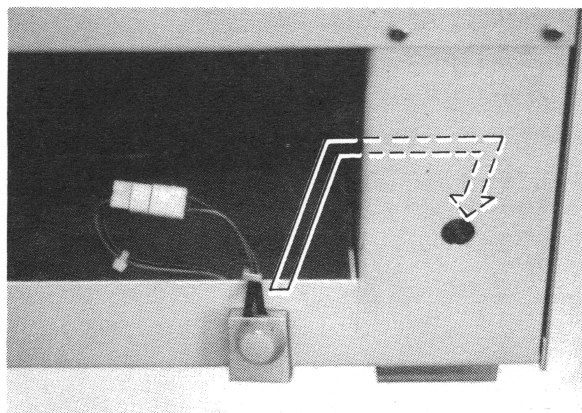

Figure 19. Battery Compartment.
- Remove battery from battery compartment, exterior rear bottom (Figure 19).